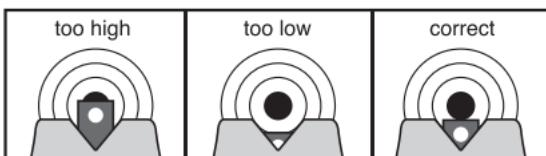

Fig. 13
- The air pistol is correctly aimed when the front sight blade is positioned exactly in the notch of the rear sight. The top of the front sight blade should be even with the top of the notch in the rear sight. The bullseye should appear to rest on the top of the front sight (Fig. 13).